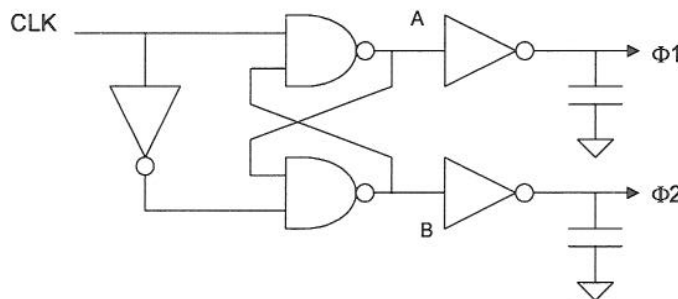

Figure 6.1
- b) Figure 6.1 shows the circuit for a two phase non-overlapping clock generator. All the inverters are minimum size, and all the transistors used in the NAND gate have a width of  $0.3\ \mu\text{m}$ .